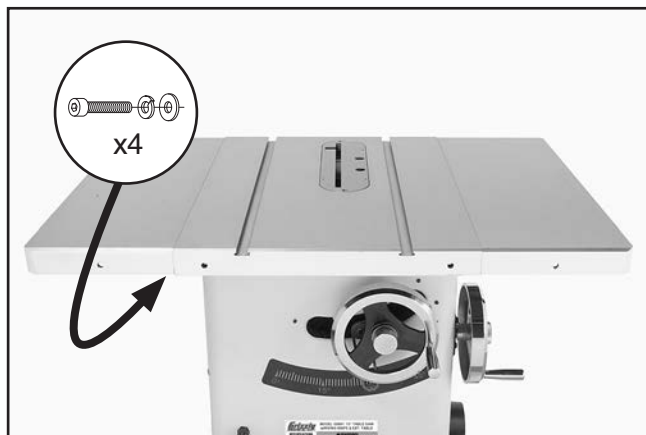

Figure 15. Extension wings installed.
8. While a helper holds the wings in place, attach each extension wing to the main table with the (4) M8-1.25 x 30 cap screws, 8mm lock washers, and 8mm flat washers removed in **Step 6** (**Figure 15**).